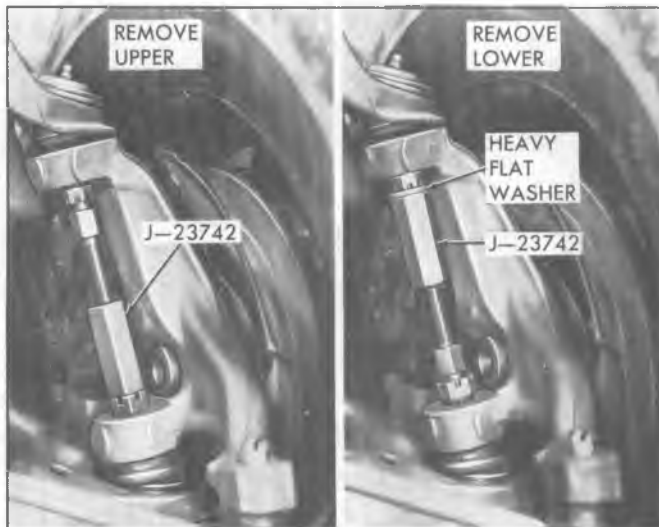

Fig. 13—Loosening Ball Joint Stud — Typical
3. Loosen upper control arm ball stud in steering knuckle, using Tool J-23742 position as shown in Figure 13. Remove the nut from the ball stud and raise upper arm to clear steering knuckle.
3. Install J-23742 between the ball studs as shown in Figure 13.
4. Install J-23742 between the ball studs as shown in Figure 13.